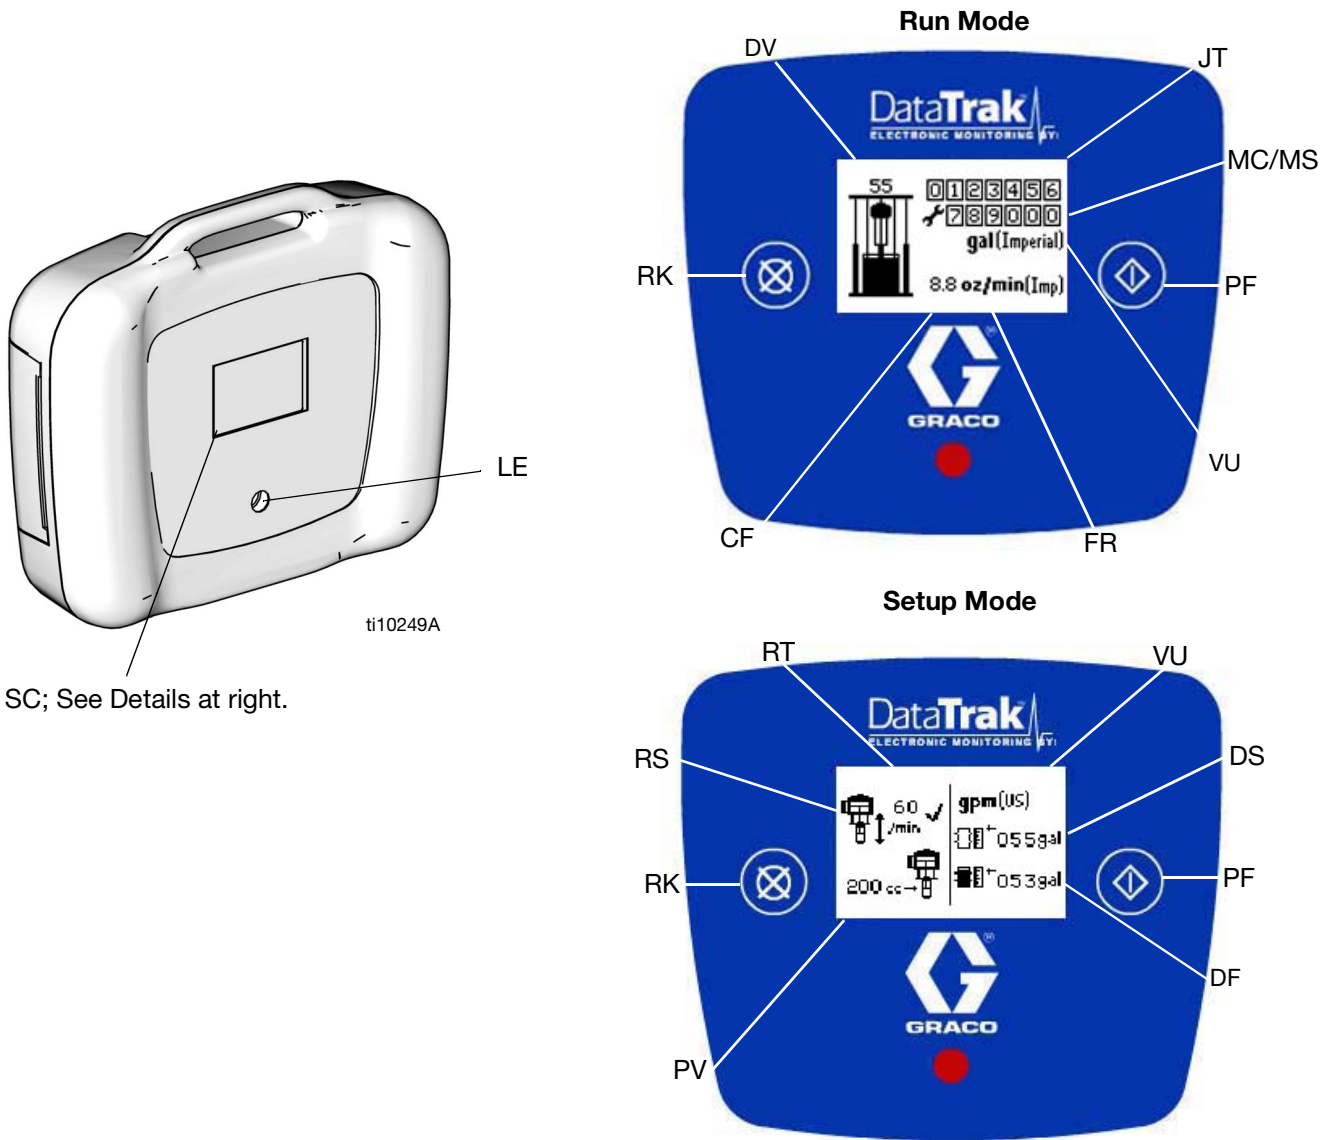
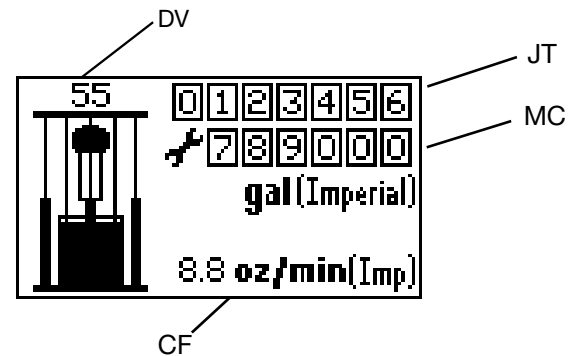

Fig. 24: Remote DataTrak Controls and Indicators
FIG. 27: Run Mode Screen
4. The Splash Screen (FIG. 26) will flash on while the progress bar fills from left to right. It will then go directly to Run Mode (FIG. 27).
See FIG. 24 and FIG. 27.
2. While in Prime Mode, the job total counter (JT) is blank and will not count. However, the maintenance counter (MC) will continue to decrement.
3. When a new drum is installed, press and hold  while in Prime Mode to reset the drum volume remaining (DV) to the drum fill volume (DF).
4. To exit Prime Mode, press . The Prime symbol will disappear and the LED will stop flashing; the screen will return to Run Mode (FIG. 27).
NOTE: If a key is not pressed within one minute of entering a setup screen, the system will return to Run Mode (FIG. 27).
- a. Press and release  to enter Diagnostic Mode from Run Mode (FIG. 27).